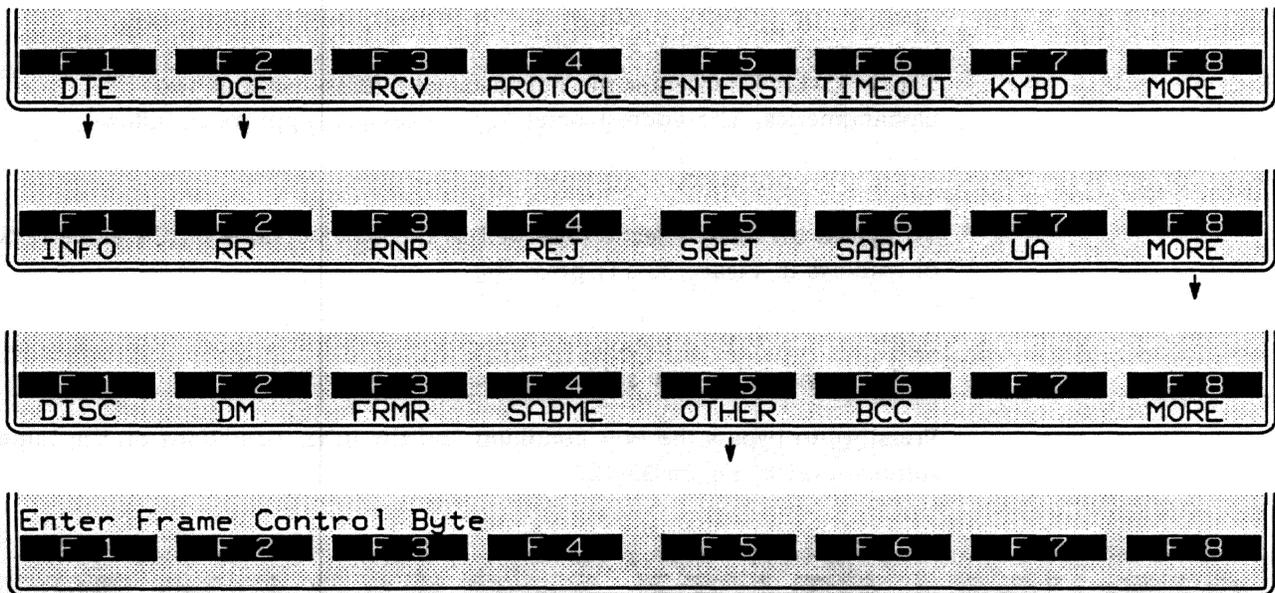

Figure 33-10 The hex value of any frame may be specified under *OTHER*.
4. *Other frames.* Any frame type may be entered as a hexadecimal value instead of by name. Press the softkey for OTHER. See Figure 33-10. Then enter the hex byte in the form of two alphanumerics. Here, for example, is a SABM (with the P bit set) entered as a hexadecimal: